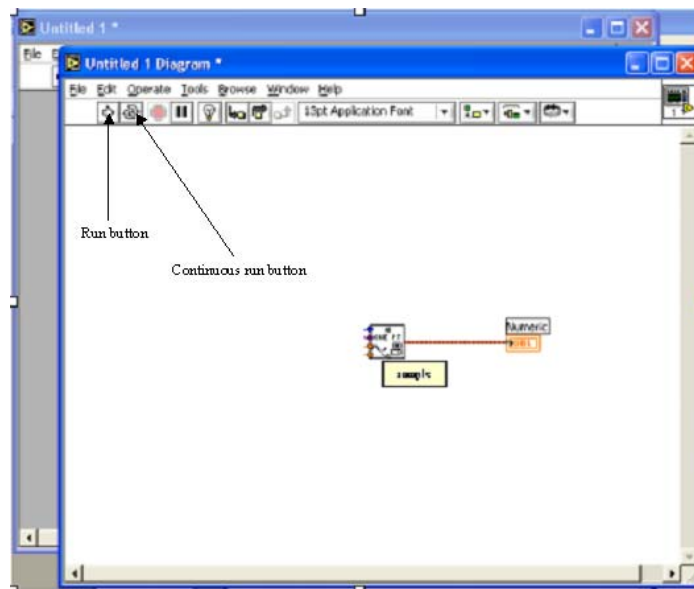

Figure 2.3.28. Wiring the Analog Input vi to the indicator.
4. Drag the **AI Sample Channel.vi** icon to the white **Diagram Panel**. This vi (virtual instrument) is a subroutine that takes in external voltages. Now with the cursor somewhere on the white Diagram panel, hit the Tab button until your cursor is a spool of wire (the “wiring tool”), and then move the wiring tool over the **AI Sample Channel.vi** until the **Sample** terminal flashes, and then wire the **Sample** terminal to the **Numeric Indicator** (click on one, and then the other) as in Figure 2.3.28.